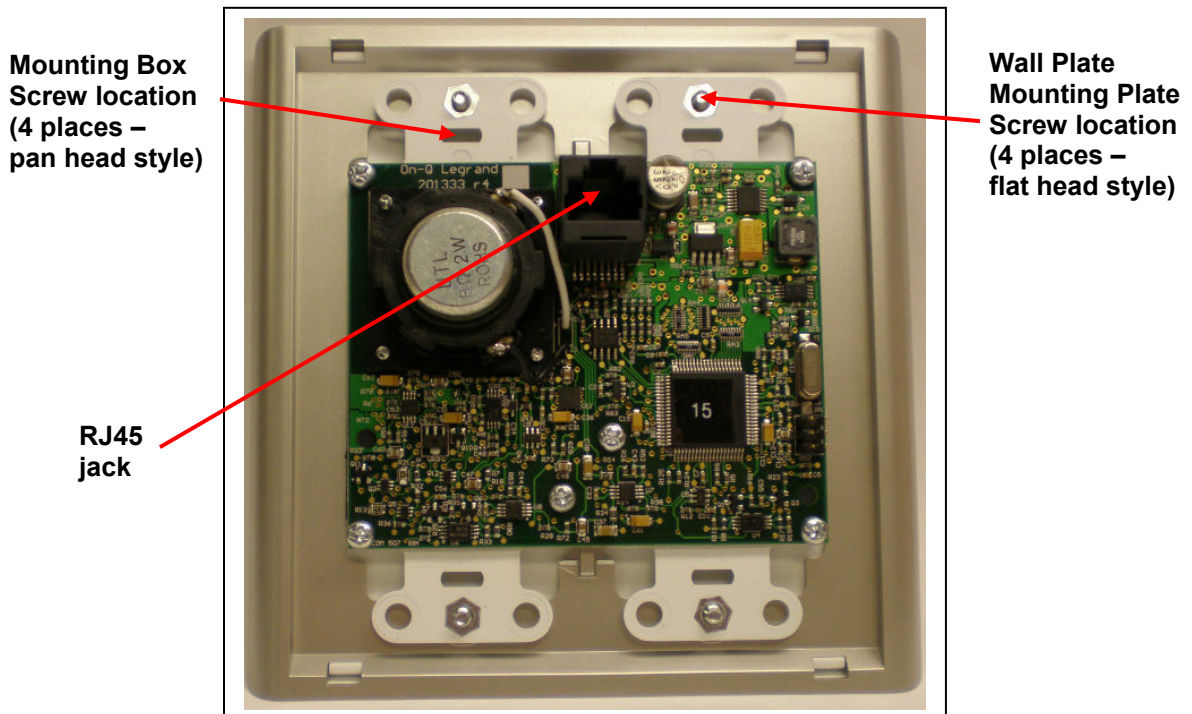

Figure 5
- Plug the terminated "Room Unit X" cable into the RJ45 jack on the rear of the Room Unit (see **Figure 5**).